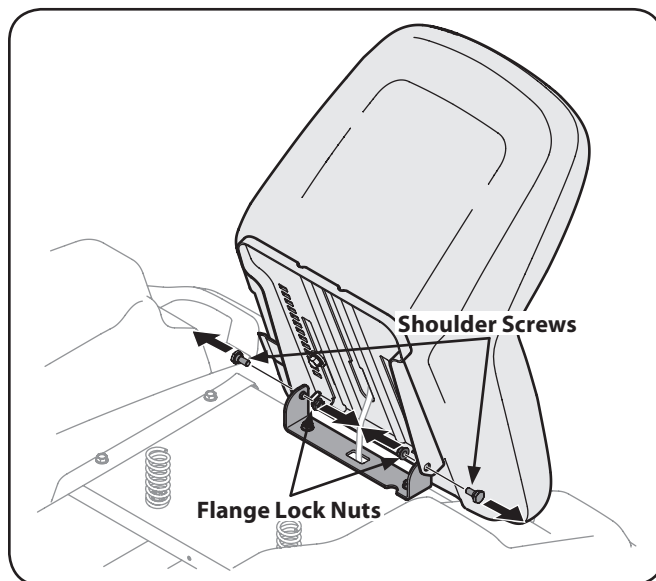

Figure 3-5
- Rotate the seat into position and secure the seat into place with the previously removed shoulder screws and flange lock nuts. Be careful not to crimp or damage the wire harness while installing the seat. See Figure 3-5.